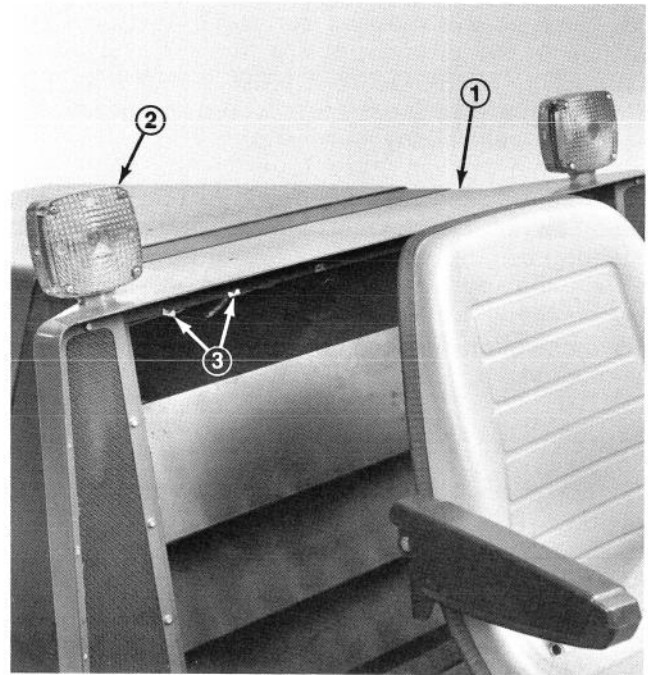

Figure 21
1. Install a flashing light into each hole in the cowl and secure the assemblies with flat washers, lock washers and hex nuts (Fig. 21).
3. Connect the harness to each light assembly. Use 4 wire clips to secure the harness for the left flashing light to the top underside of the cowl (Fig. 21).